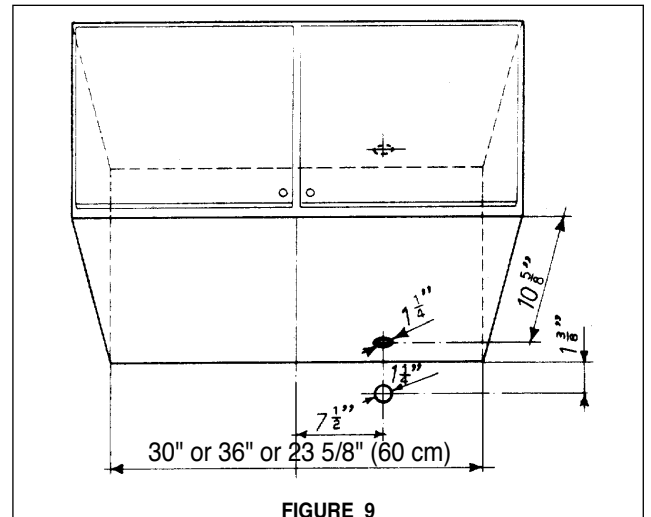

FIGURE 9
5. Determine the proper location for the Power Supply Cable. Both possible locations are given in **FIGURE 9**. Use a 1 1/4 inch Drill Bit to make this hole. Run the Power Supply Cable. Use caulking to seal around the hole. DO NOT turn on the power until installation is complete.